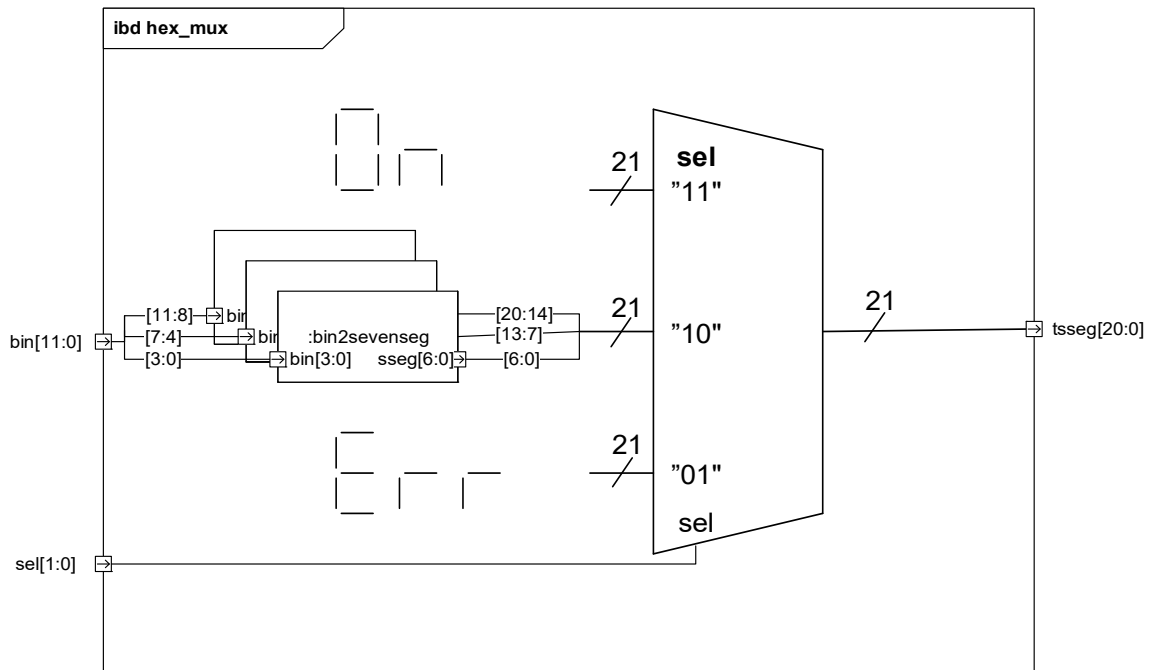

Fig. 2: Hex MUX.
- Implement the content shown in figure 2 using “when” statements. The three HEX displays must show “On ” when no keys are pushed, “Err” when KEY(1) is pushed and the hex-value of SW(11 downto 0) when KEY(0) is pushed. Note that KEY is active low.